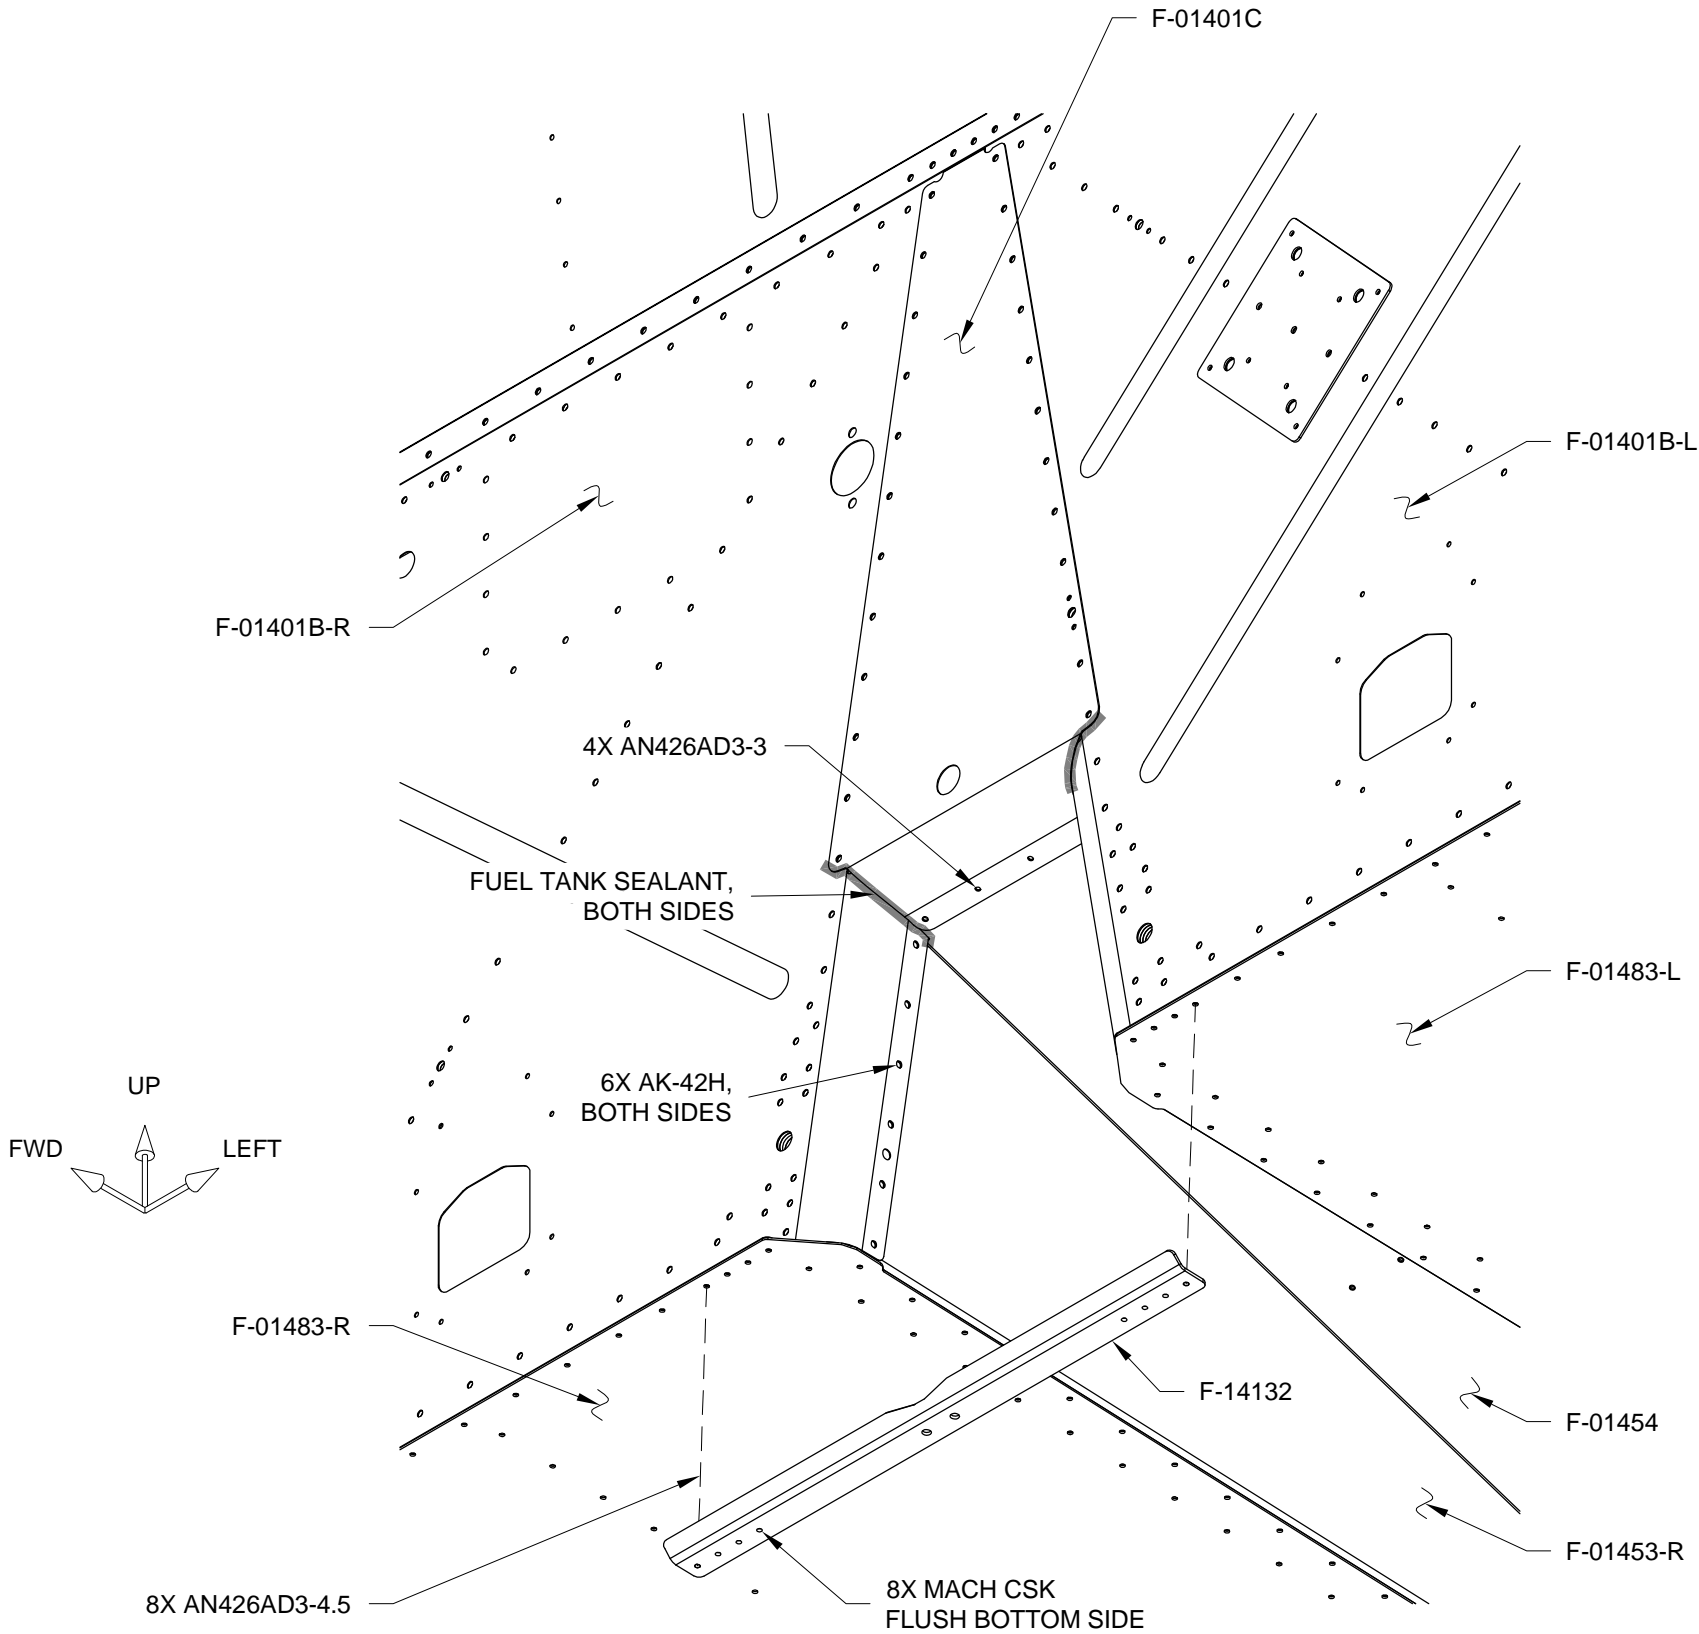

FIGURE 1: TUNNEL ANGLE
Apply a fillet of fuel tank sealant as shown in Figure 1. Continue the fillet onto the forward faces of the left and right firewall sides.
Step 4: Machine countersink the #40 holes in the F-14132 Tunnel Angle as shown in Figure 1.
Step 1: Separate the F-14134C Cowling Hinge Shims as shown in Figure 1. Retain the remaining shims for use in Sections 29 and 35.